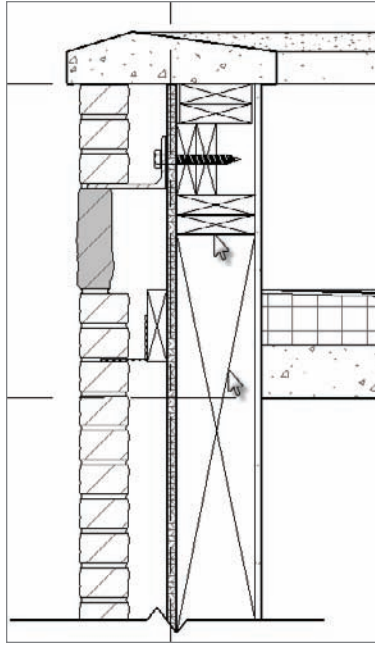

FIGURE 12.50 Adding the detail to indicate studs and plates by using detail lines
12. Draw the “X” for the blocking, as shown in Figure 12.50.
13. Copy the blocking down to form a double plate, as shown in Figure 12.50.
14. Draw another “X” below the plates to indicate a stud, as shown in Figure 12.50.